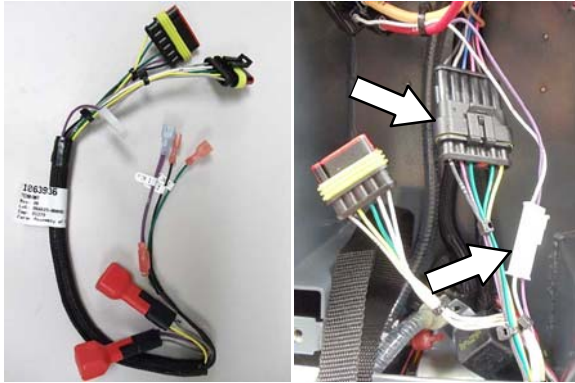

Fig. 5
5. Connect the lithium-ion battery jumper harness to machine harness as shown (Figure 5).